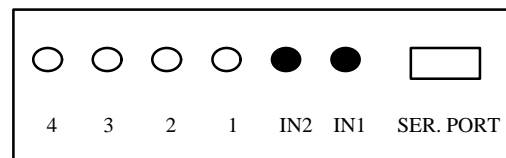

Figure 2
1. Two input jacks are available on the Turntable: IN 1 and IN 2. Attach the user switch to either IN 1 or IN 2 on the side of the turntable. If an additional input is desired, attach that input to the remaining input jack (Figure 2). Other viable inputs include an additional switch, a Poka-Yoke controller, or an ETL Counter Controller.